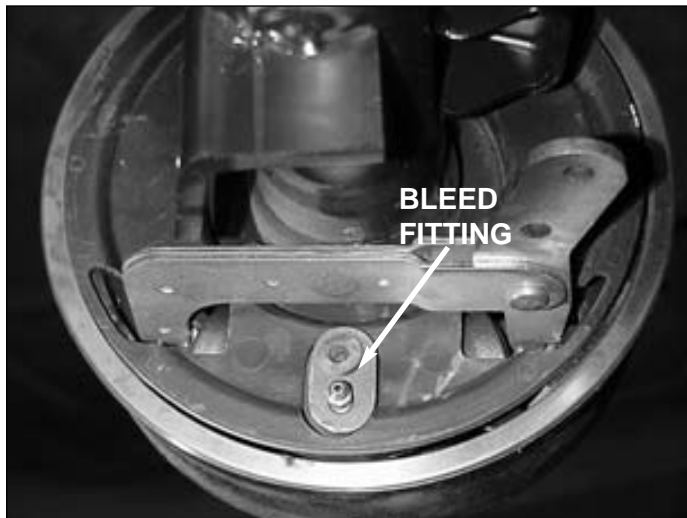

Figure 13 - Bleeder Fitting
2. Install a length of appropriate size plastic tubing over wheel cylinder bleeder fitting, located next to wheel cylinder line connection. See Figure 13.